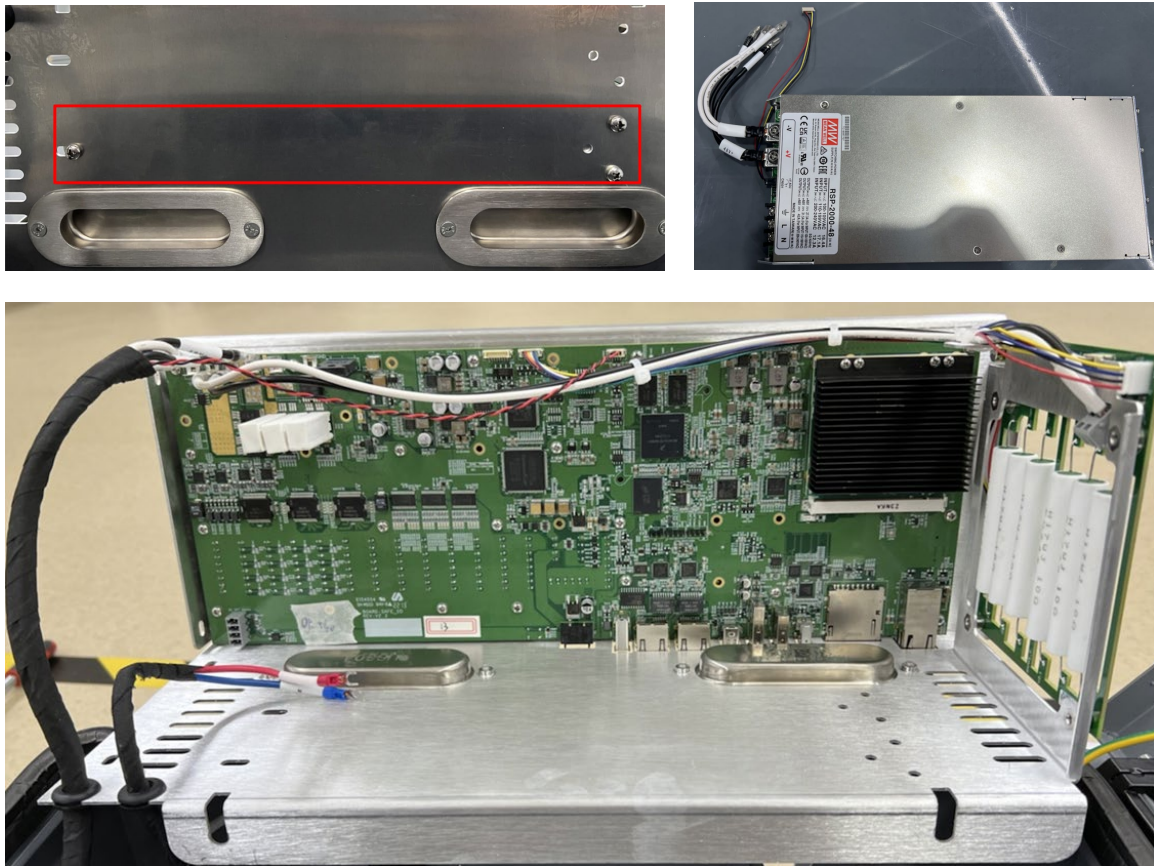

Figure 3-27 Screw position and power placement
- As Figure 3-27, remove the 3 cross recessed pan head screw for holding the power supply. Then take the power supply out and place it somewhere safe;